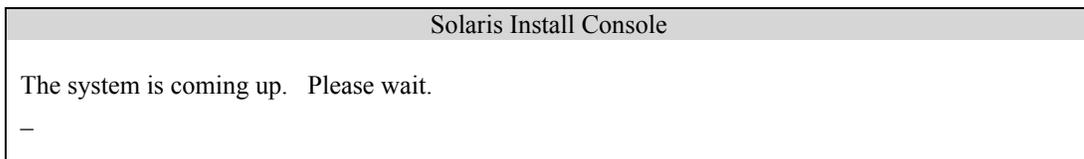

Figure 3-22 Solaris Install Console
16. The Solaris Install Console (Figure 3-22) will be displayed after a few moments.